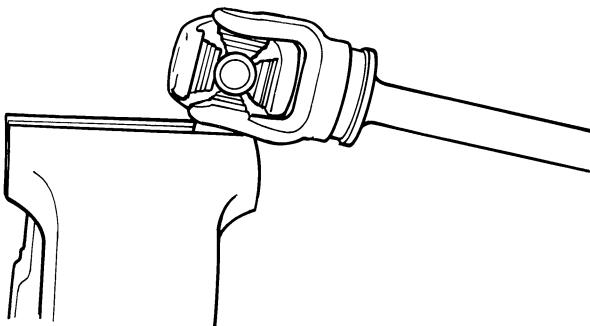

Figure 8
7. Place the protruding portion of the bearing cup in the vise and just snug the jaws so the bearing cup will not be distorted. Use a prying motion on the yoke to work the bearing cup out of the joke as shown in Figure 8.